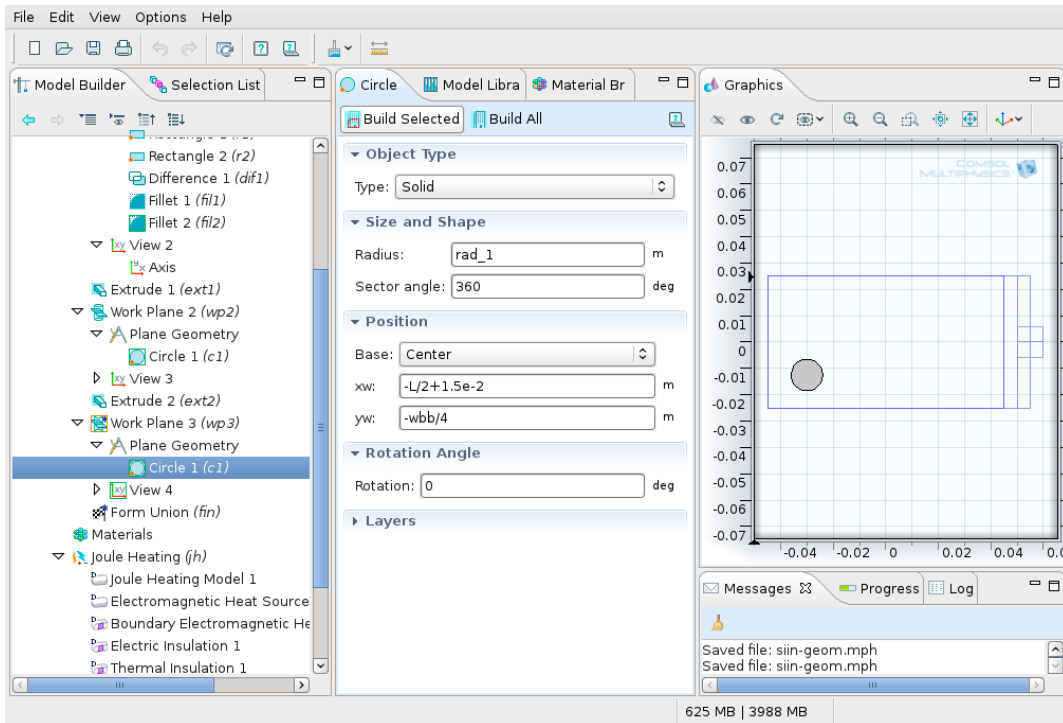

Figure 25: Drawing the second polt.
- **Work Plane 3** → **Plane Geometry: right button** → **Circle** (Fig. 25):